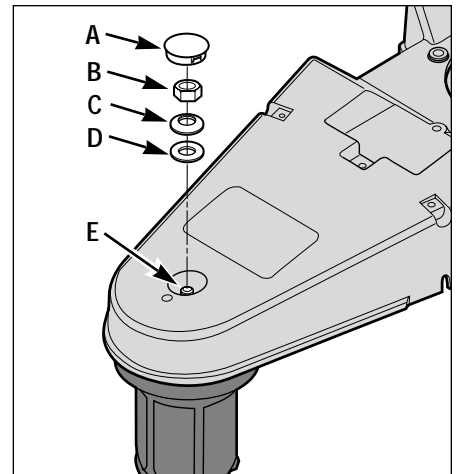

Figure 5-4
4. Remove the plastic plug (A, Figure 5-4) from the top of the mower deck.
5. Using a 3/4" socket wrench, remove nut (B, Figure 5-4), Belleville washer (C) and flat washer (D) from spindle shaft (E).
6. Thread nut (B, Figure 5-4) a few turns back onto spindle shaft (E) to protect the threads on the spindle shaft during the next step.
7. Loosen the spindle shaft by placing a wood block against the top of the nut (B, Figure 5-4) and firmly striking the wood block with a hammer.
8. Reinstall the flat washer (D, Figure 5-4), Belleville washer (C) and nut (B) on the spindle shaft. Note that the dished-in side of the Belleville washer must face the flat washer. Tighten the nut securely (torque to 50 ft./lbs.), while checking frequently to ensure that the spindle head rotates freely. If the spindle head binds, it could be due to the belt being pinched between the spindle head and the belt guides. If so, remove the spindle head assembly and repeat steps 5-7.
9. Replace plastic plug (A, Figure 5-4).